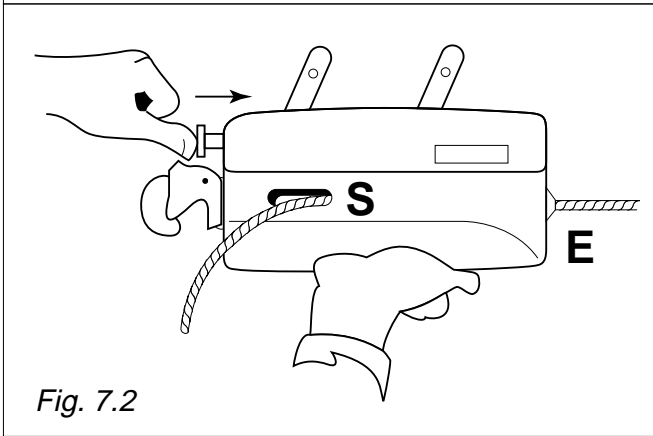

Fig. 7.2
3. Insert the tapered end of the wire rope through the rope guide E and push it through the mechanism until it emerges at S (Fig. 7.2).
Closing : Push the rope release catch towards the machine and then downwards, until it locks in position. (Fig. 7.2).